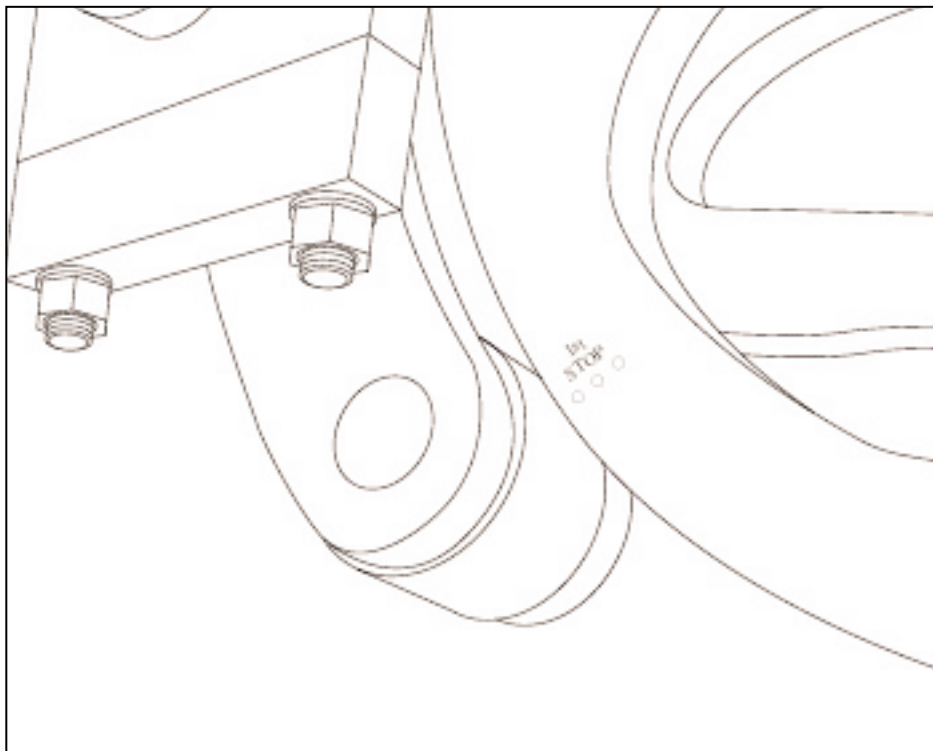

Figure 4.17 "FIRST STOP" (R.H. side of machine)
4.2.1 Run machine to "first stop" (see figure 4.17)